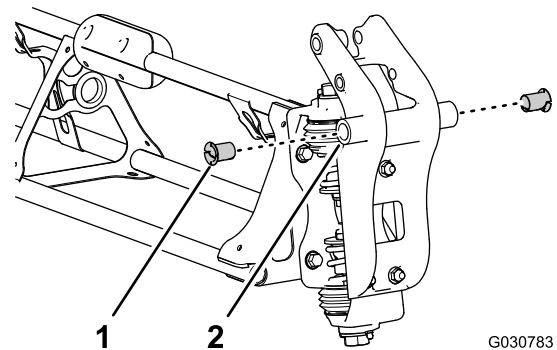

Figure 134
2. Insert a nylon-flange bushings into the 31.8 mm (1-1/4 inches) hole in each side of the pivot fitting (Figure 134).